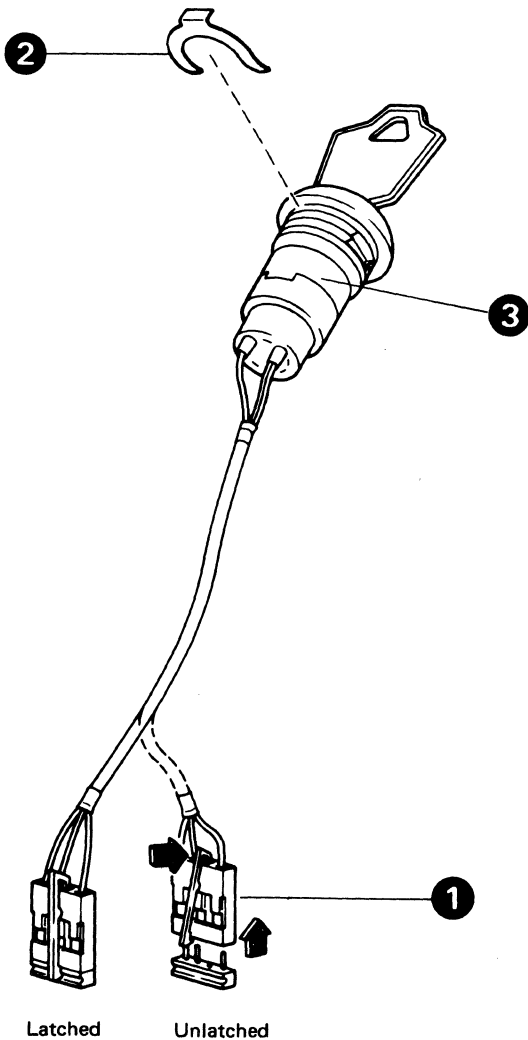

Figure 3-3. Security Keylock Assembly
1. Remove the logic unit cover ① as described under "Logic Unit Cover."
2. Unlatch the key lock connector ② and remove it (See Figure 3-3 Security Keylock assembly).
3. Remove logic board assembly ③ .
(See Figure 3-3)